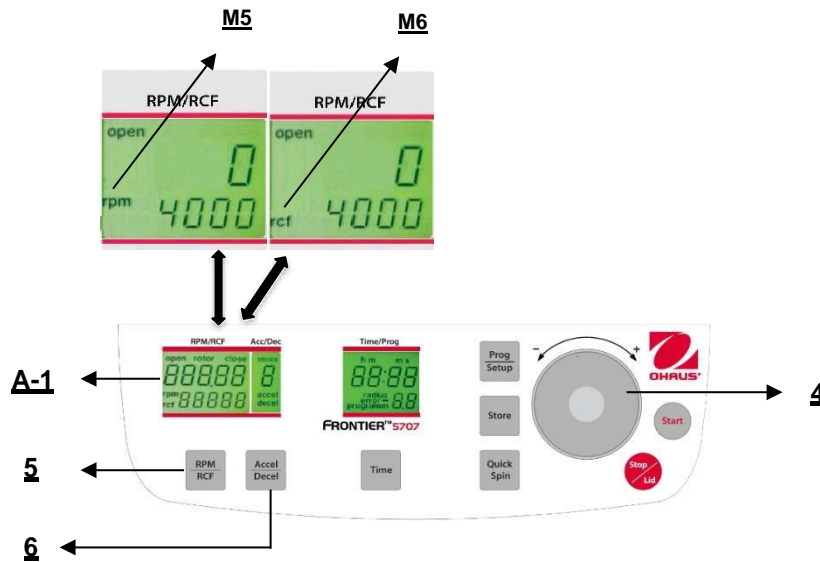

Figure. 16
This pre-selection is activated through the key **"RPM/RCF"** (5) (refer to figure 16 below). By pressing the key once the word **"rpm"** (M5) flashes. By pressing the key twice the pre-selection of the centrifugal forces can be selected. Then the flashing word **"rcf"** (M6) appears. You can set the desired values with the adjusting dial (4). In the display (A-1) the regulated value is shown permanently, before, during and after the run.